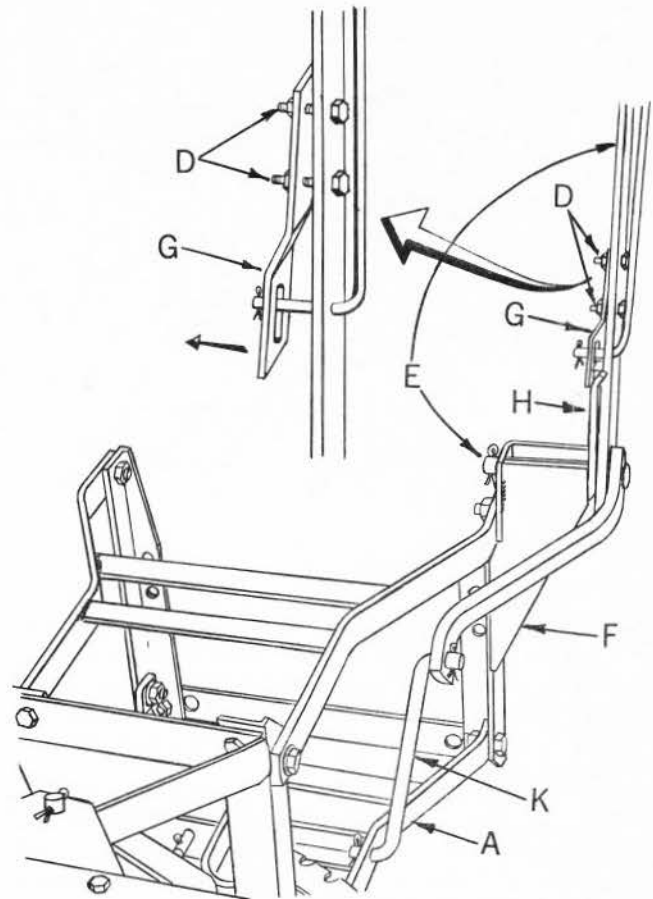

FIG. 2
6. Refer to Figure 2. Loosen two nuts (D) in lever and lever clip lower. Slide shaft of lever and arm assembly (E) into socket of mounting angle and quadrant assembly L.H. (F) and secure with 5/32 x 1 cotter pin found in plastic bag. NOTE: Be sure lever clip (G) straddles lever quadrant (H) as shown and retighten two nuts (D) securely.
7. Assemble lower end of lift rod (K) to lower lift frame (A) and secure with 5/32 x 1 cotter pin found in plastic bag. See Figure 2.